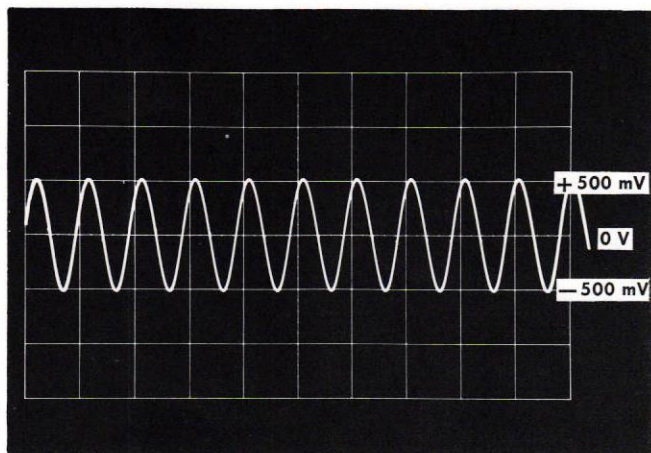

Fig. 6-20. Dynamic range of P6042, test oscilloscope set to 0.5 V/div.
f. Check for an undistorted dynamic range of at least + and -1 cm ( $\geq +$  and  $-500$  mV at probe amplifier output). See Fig. 6-20.